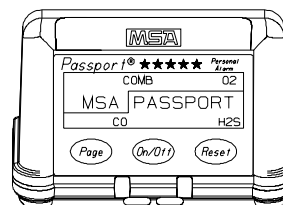

Figure 1-7.
- Screen then flashes the units of gases measured (FIGURE 1-7).